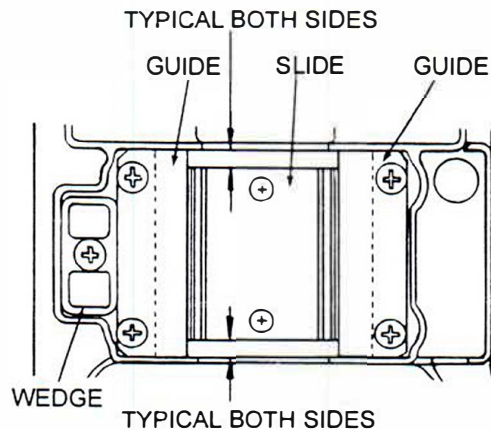
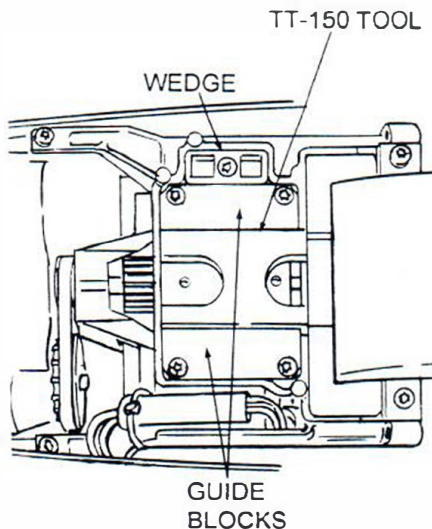

Figure 31. Assembled View of Slide Bracket Assembly
Figure 33. Use of Alignment Tool TT-150 During Slide/Guide Assembly
- B. *Refer to Figures 31 and 32.* Remove the single screw from the slide adjusting wedge.
- E. *Refer to Figures 31 and 32 as needed to assemble.* Assembly is as follows:
2. *See Figure 31.* Assemble the two roller bearing assemblies, two guide blocks and slide. Place them, as a unit, into the slide bracket casting.
3. Position slide as shown in Figure 31. Install TT-150 tool with "FACE UP TO CENTER SLIDE" (no front or rear orientation) facing up to align bearing assemblies and slide. See Figures 33 & 34.